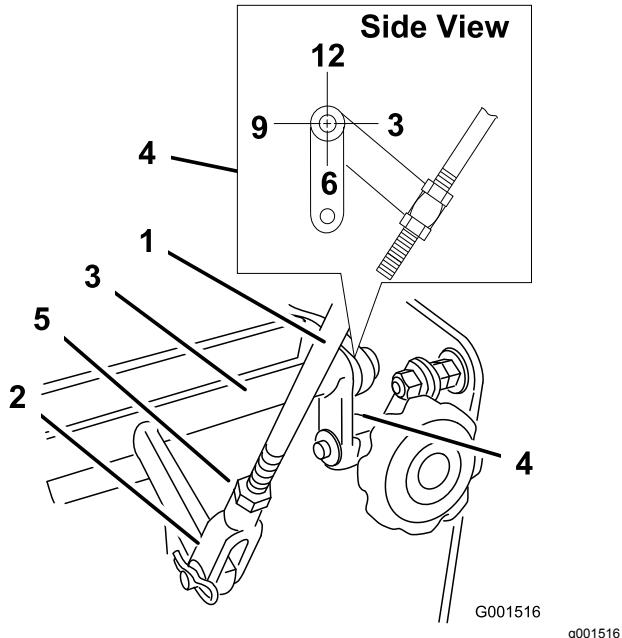

Figure 32
4. Check the orientation of the tabs on the ends of the speed control crank. Ensure that these tabs are pointing straight down at the 6 o'clock position approximately (Figure 32).
5. Adjust the threaded yoke at the bottom of the speed-control linkage until the tabs are at the 6 o'clock position (Figure 32).